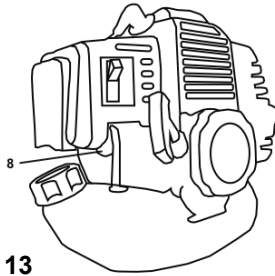

FIG. 13
Use the primer (8) when starting the product with a cold engine (Fig. 13).